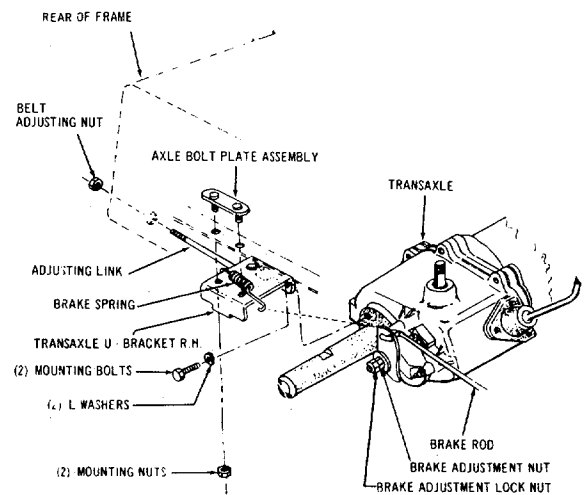

FIGURE 23. BRAKE ADJUSTMENT NUT
3. If adjustment is incorrect, tighten or loosen brake adjusting nut until correct dimension is obtained. See figure 23. Over tightening will reduce effective braking action. Lock brake adjustment with brake adjustment locknut. Periodic adjustment is necessary to maintain effective brake operation.